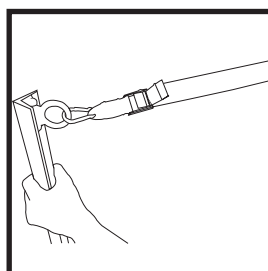

Fig. 20
21. Start stretching the fabrics using the tension straps with buckles (Fig. 20). Be sure to tighten the straps on the opposite sides and not in a row.